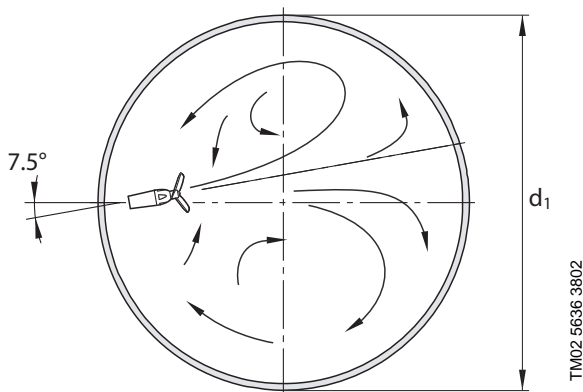

Fig. 30 Deposited solids are mixed with the liquid of a circular tank
- Deposited solids, if any, are mixed with the liquid. See fig. 30.